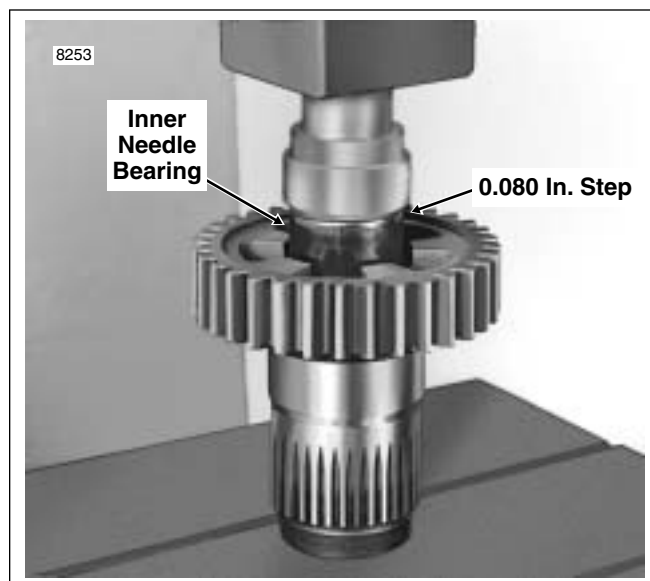

Figure 7-33. Press Transmission Side Needle Bearing into Main Drive Gear
15. Apply pressure until shoulder on tool makes light contact with the gear. See Figure 7-33. Remove tool.